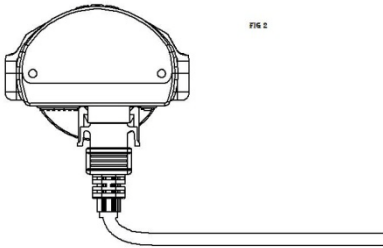

FIG. 2
5. Attach Power cord as shown in Fig 2 and Fig 3. Use only the supplied power cord.